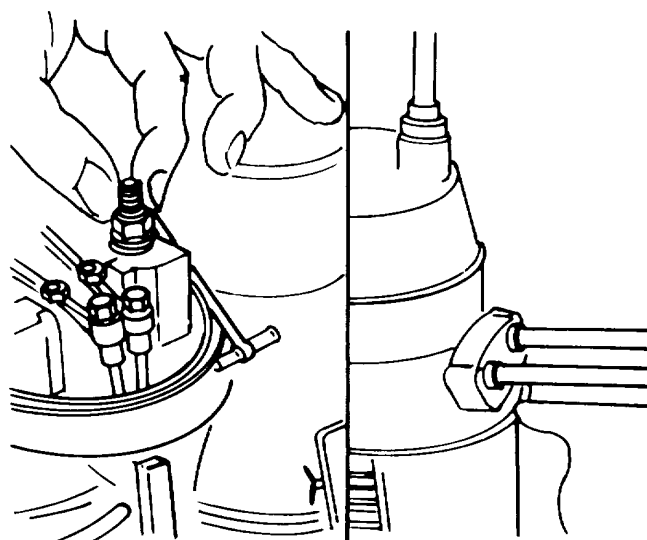

Figure A-62. Valve Cover
s. Valve Cover. Install the valve cover gasket and valve cover, making certain the gasket is properly seated on the cylinder head. Torque the two crown nuts with a 13mm socket. Note: *Install new o-rings on the valve cover studs before installing the cover.* (figure A-62)